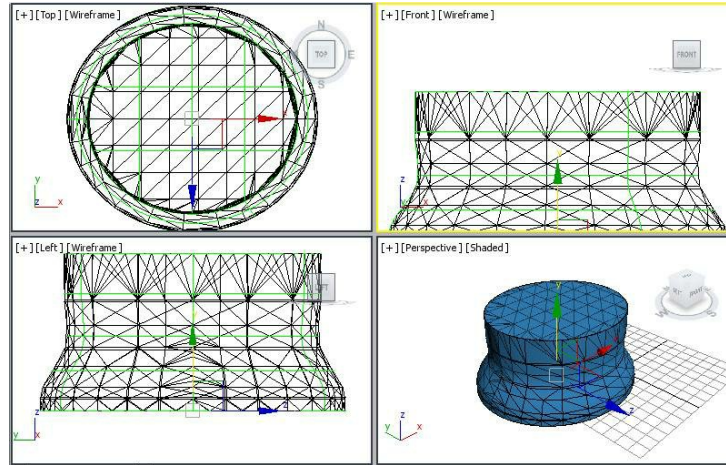
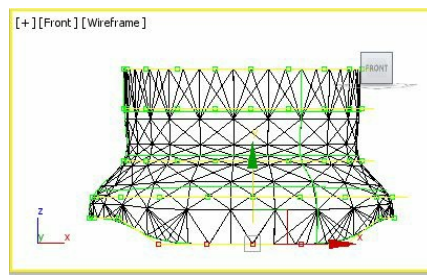

Figure 10-90 The NURBS surface capped at one end
Figure 10-92 *The outer control vertices moved vertically*
rollout, select the **Flip Normals** check box. The open surface is now capped at one end, as shown in Figure 10-90. Next, right-click to exit the **Create Cap Surface** command.
9. Select the **Curve CV** sub-object level; all control vertices are displayed in the viewport. Now, select the outer control vertices of the bottom curves, refer to Figure 10-90. Next, move them until the value in the **Y** spinner in the coordinate display becomes about **15**, as shown in Figure 10-92.